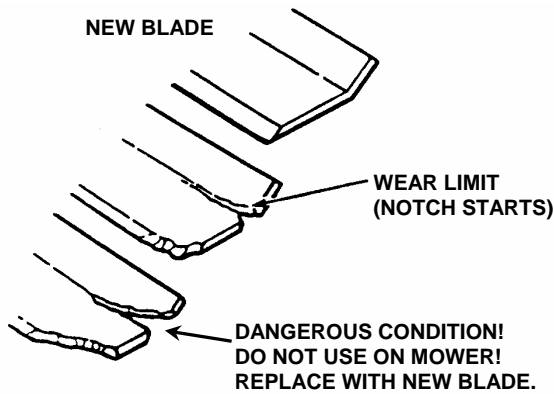

FIGURE 4.11
1. Inspect blade frequently for signs of excessive wear or damage. See Figure 4.11.
7. Inspect condition of blade. See Figure 4.11.